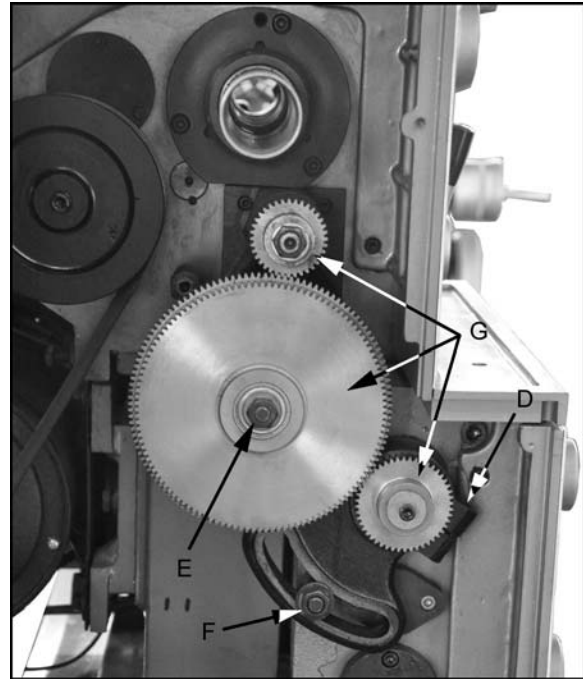

Figure 17
3. Loosen the socket head cap screw (D, Fig. 17) and hex nuts (E & F, Fig. 17). Move the quadrant out of the way.
4. Change gears (G, Fig. 17) to match the feed and thread chart.